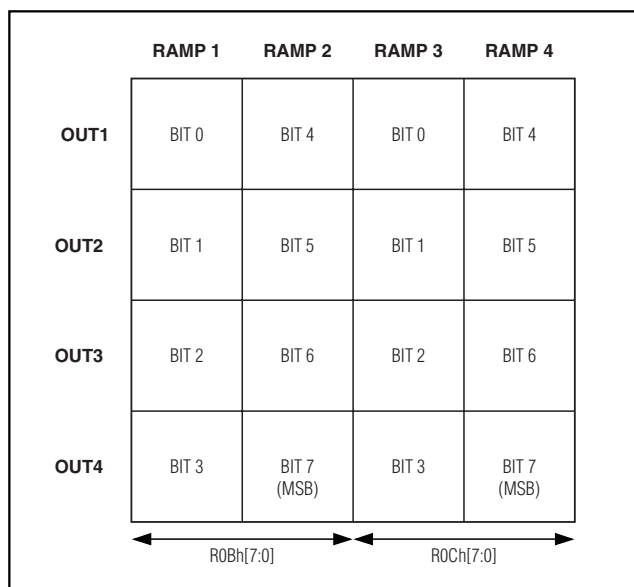

Figure 6. Mapping Tracking and Sequencing Modes
intended to provide only tracking for the four supplies (only one ramp is generated). To control one particular channel, insert a "1" in any of the four possible positions (one row for each channel contains 4 bits) and the circuit will generate the proper signals (see Figure 6).
To configure tracking and sequencing modes, insert "1" and "0" into the 0Bh and 0Ch registers (see Table 2). Figure 6 shows how to map for tracking and sequencing modes. Each OUT_x output can follow one of the four possible ramps in tracking or sequencing mode (16 bits are available) and one bit set to "1," means that the channel of the interested row is powered up/down by the corresponding ramp (see Figure 6).
- 1) If the depicted table (in Figure 6) is made by all "1s," the part simply generates a single ramp (all channels in tracking mode since the first column is full of "1s," and it ignores the remaining values of the other 12 bits.